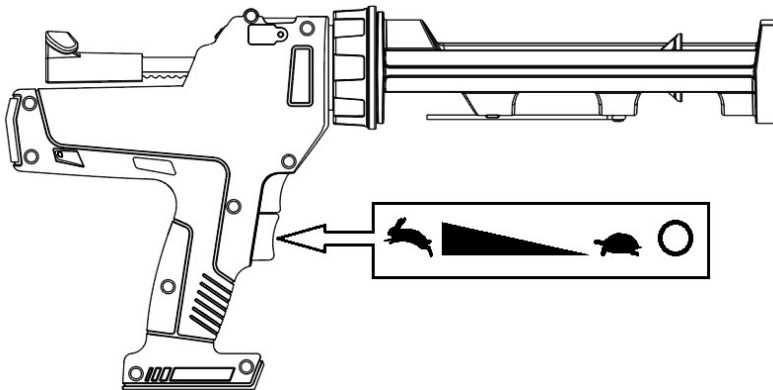

Figure 4
6. Starting and Stopping (Figure 4):